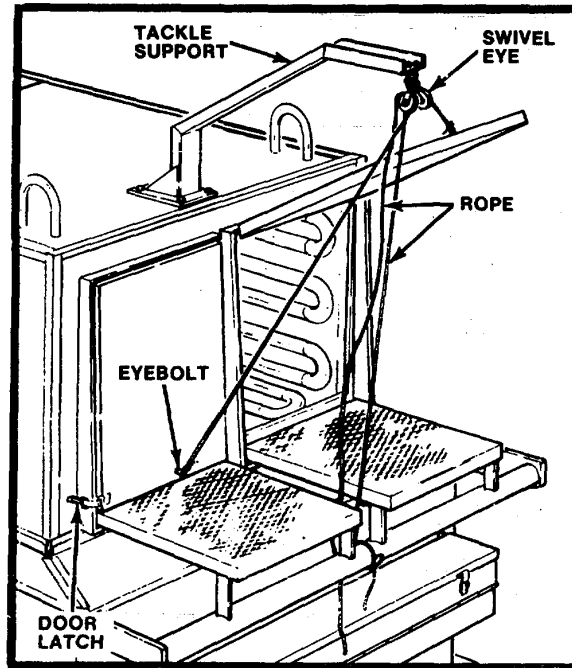

Figure 2-2. Installing tackle supports.
a. Position the tackle supports on the front and rear top of the tunnel, securing each with the four hexagon head capscrews and flat washers provided (see Figure 2-2).